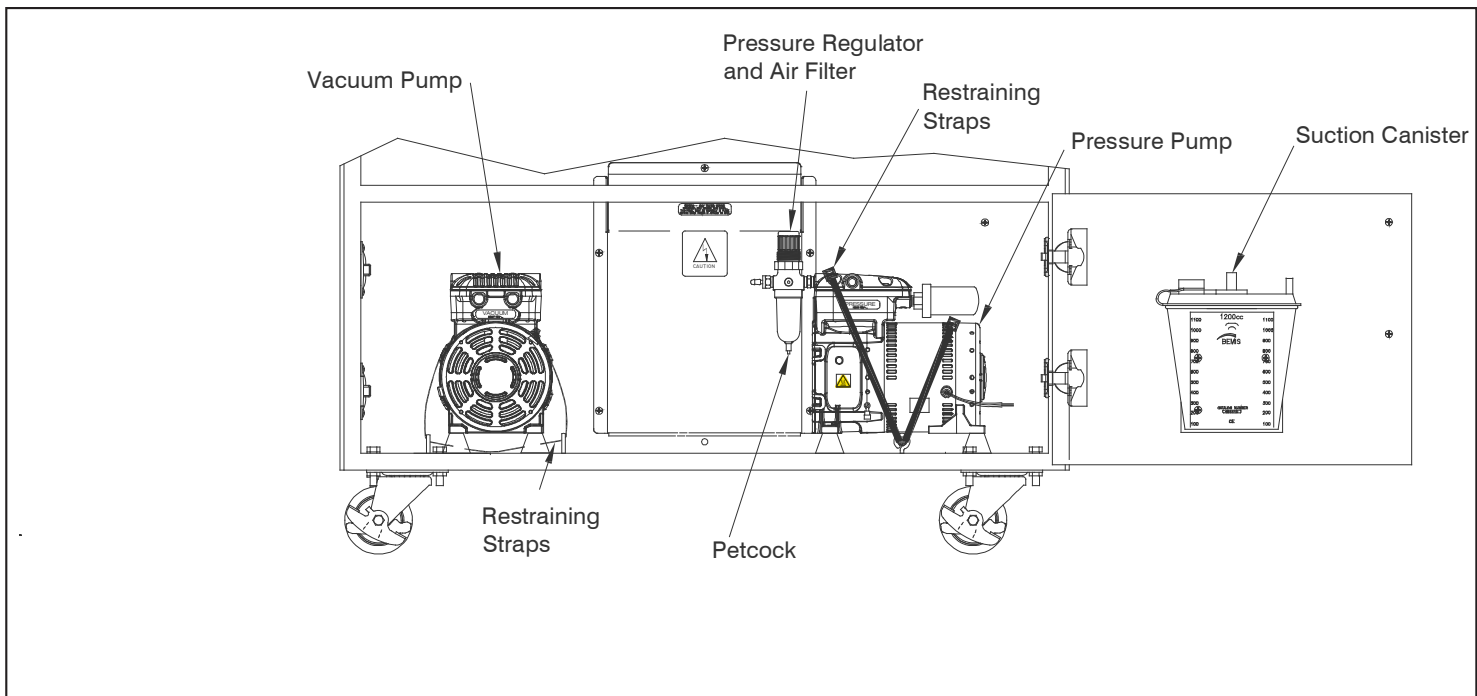
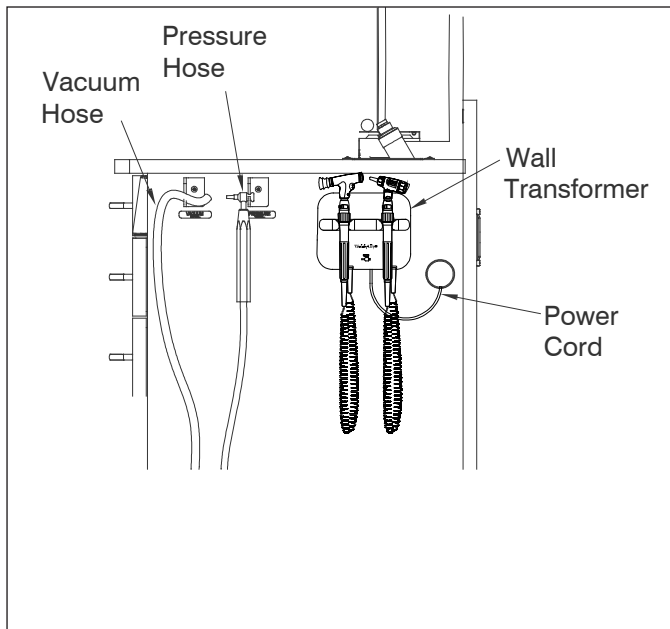

FIGURE 1
FIGURE 3 (310 Shown)
2.1.6. Two restraining straps maintain the correct operating location of each pump. Refer to Figure 1
3.3.1. Hang Pressure and Vacuum Hoses as required. Refer to Figure 3.
3.6.1. If ordered, install the optional Wall Transformer on the ENT Cabinet first plug one end of the Power Cord into the Wall Transformer. See Figure 3.
4.4.1. When depressed, the pressure switch will activate the pressure pump and the green LED on the switch will illuminate. Push switch again to turn pressure pump off. The pressure system has an Air Filter and Pressure Regulator built into the system as shown. See Figure 1.
4.5.3. To replace the Disposable Suction Canister, lift the suction canister out of its Container Ring located inside the bottom compartment. (See Figure 1)
4.5.4. To replace the Vacuum Tubing, first pinch or clamp the existing hose at the both ends to prevent leakage from the hose. Pull the hose from the bottom of the cabinet and properly dispose the hose. Run the new hose from the outside of the cabinet into the lower part of the cabinet and attach the hose to the Patient port of the lid on the suction canister. Refer to Figure 1 for Suction Canister and Figure 3 for location of Vacuum Hose.